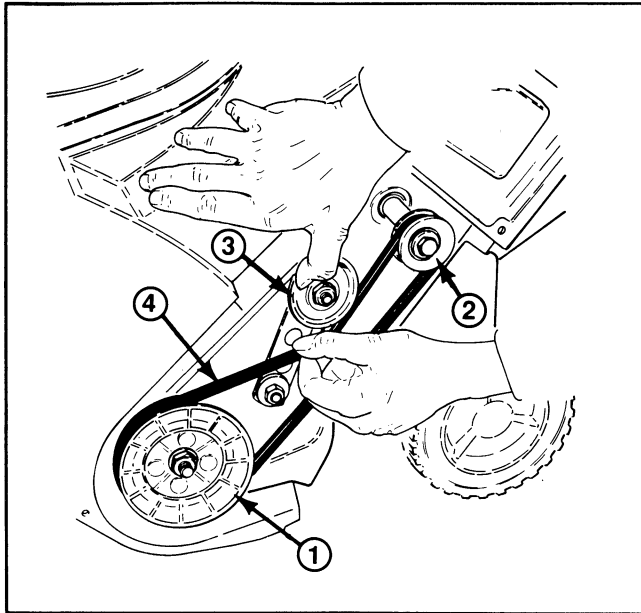

Figure 12
3. REMOVING BELT (Fig. 12)—Pull idler pulley up slightly while pulling out on belt. Allow pulley to gradually release when it can move past the belt. Rotate rotor with left hand and work belt off rotor pulley with right hand. Belt then slides easily off drive pulley.